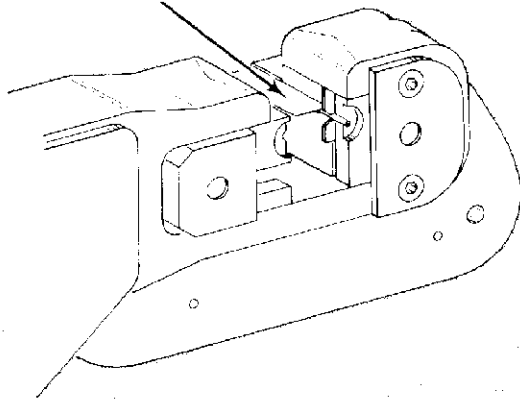

FIG. 3
- Slip section of tape containing center contact into slot in Stationary Die. Locate center contact in crimping area. See Figure 3.